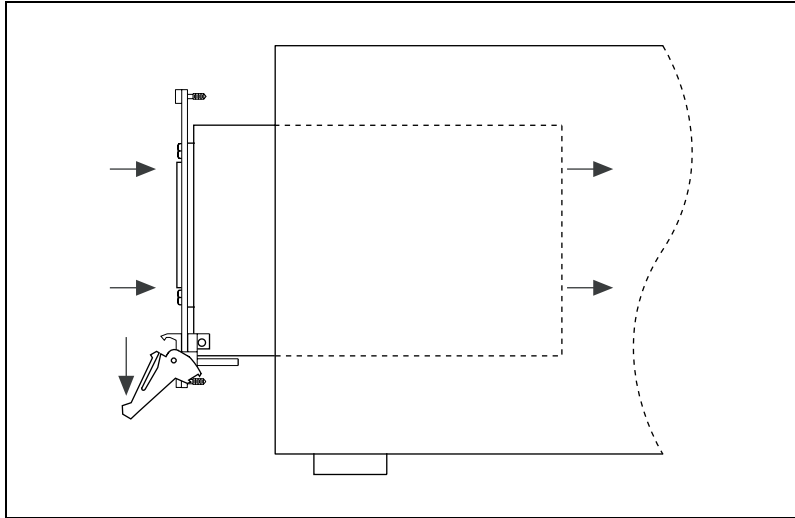
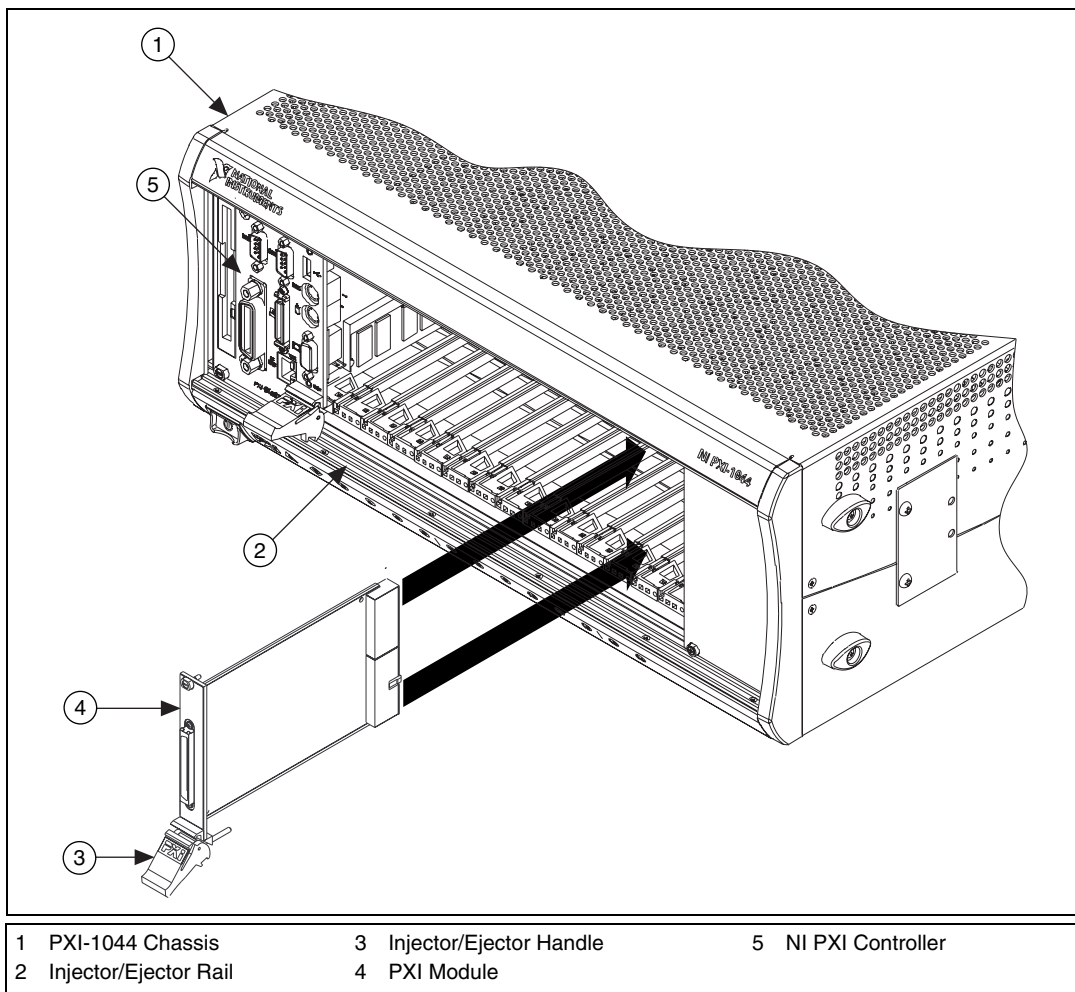

Figure 2-2. Injector/Ejector Handle Position during Controller or Peripheral Module Insertion
Figure 2-4. Installing PXI or CompactPCI Modules
2. Install the controller into the system controller slot (slot 1, indicated by the red card guides) by first placing the controller edges into the front controller guides (top and bottom). Slide the controller to the rear of the chassis (making sure that the injector/ejector handle is pushed down as shown in Figure 2-2).
2. Install a module into a chassis slot by first placing the module card edges into the front module guides (top and bottom), as shown in Figure 2-4. Slide the module to the rear of the chassis, making sure that the injector/ejector handle is pushed down as shown in Figure 2-2.